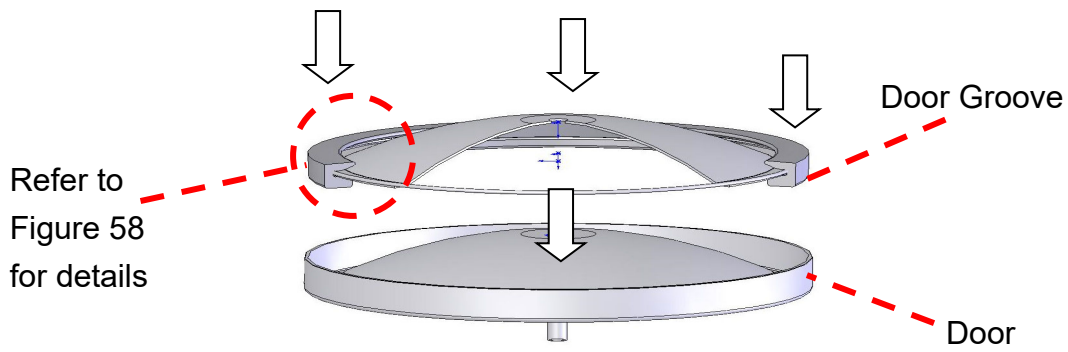
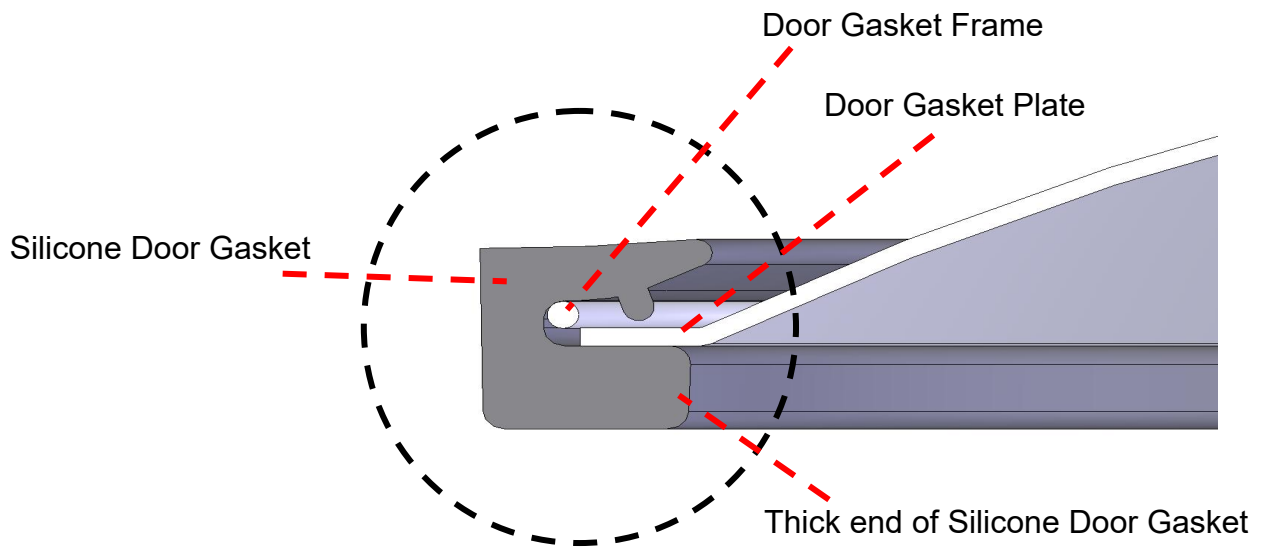

Figure 57
Figure 58
3. Install the gasket with the door gasket frame, door gasket plate inside to the door groove. Press the gasket into the door groove evenly as shown in Figure 57. Take thick end of silicone door gasket of the installation direction while pressing the gasket into the groove. Refer to Figure 58 for the correct direction.